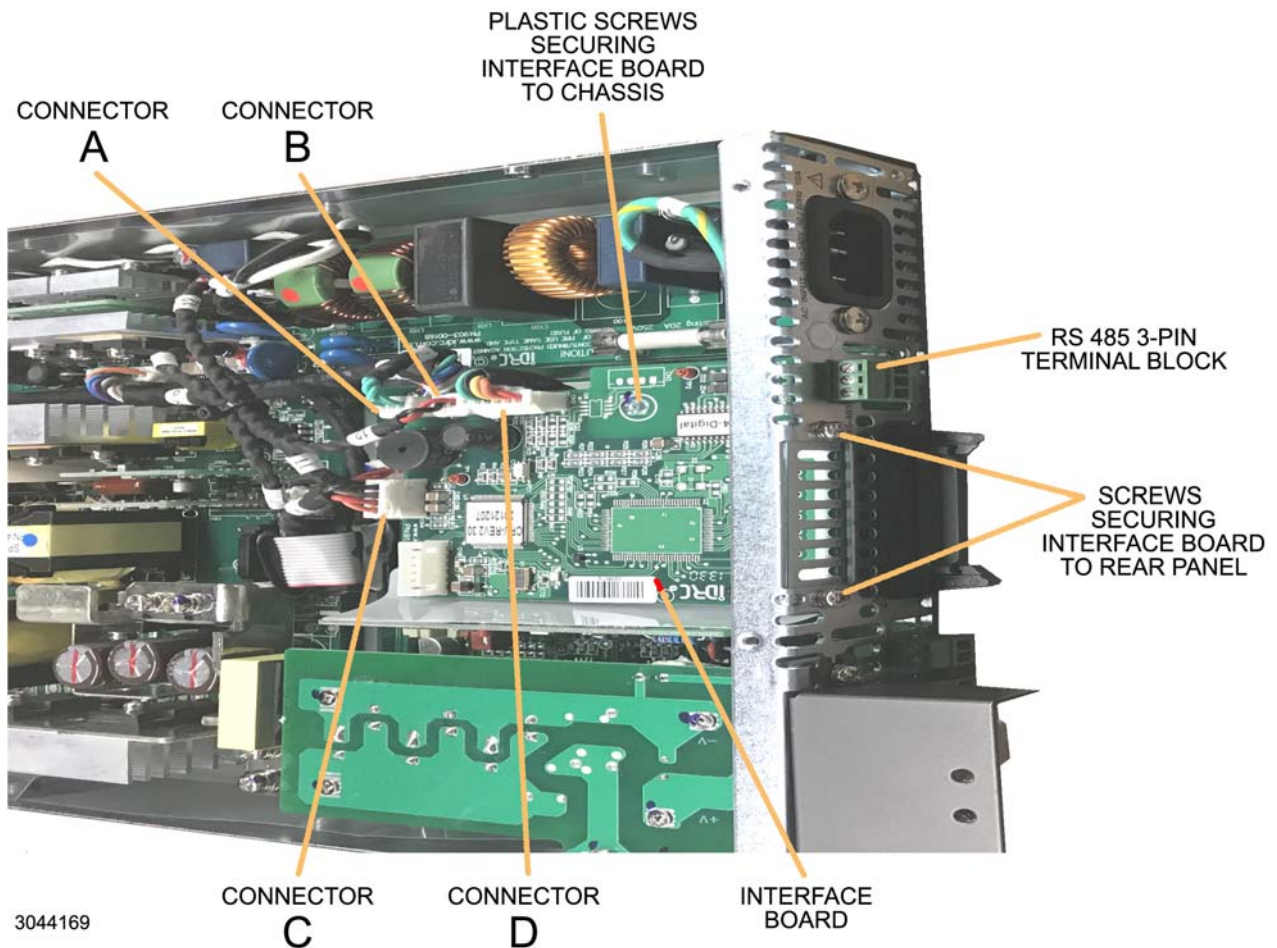

FIGURE 1. COMPONENT LOCATIONS
1. Remove 3-pin terminal block from the RS 485 port at the rear panel (see Figure 1).
2. Disconnect the four connectors (A, B, C and D) from interface board as shown in Figure 1.